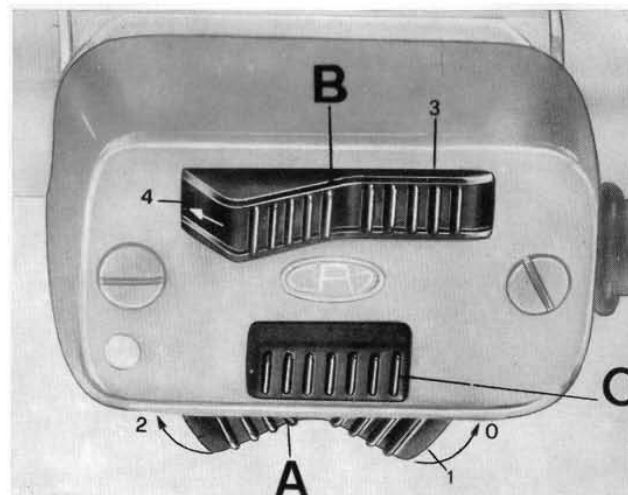

Fig. 9
- « 2 » Running position or machine ready to set out. All controls on. For daylight driving no other position necessary. For night driving levers A and B on the left handlebar must be switched on (Fig. 9).
(See fig. 9)